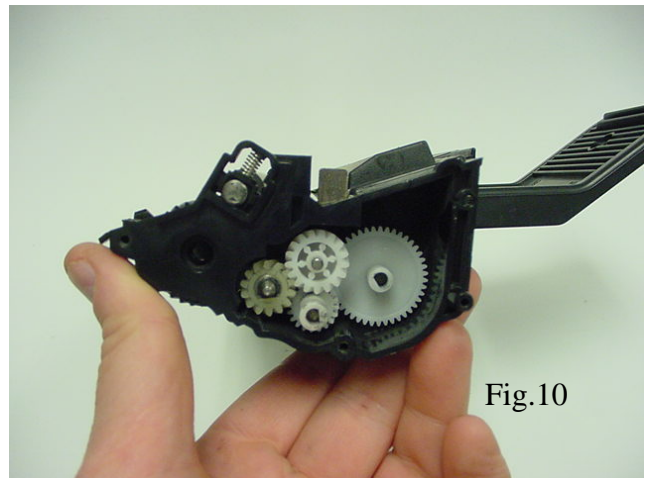

Fig.10
10. Remove the four gears from the side of the toner hopper (Fig 10).